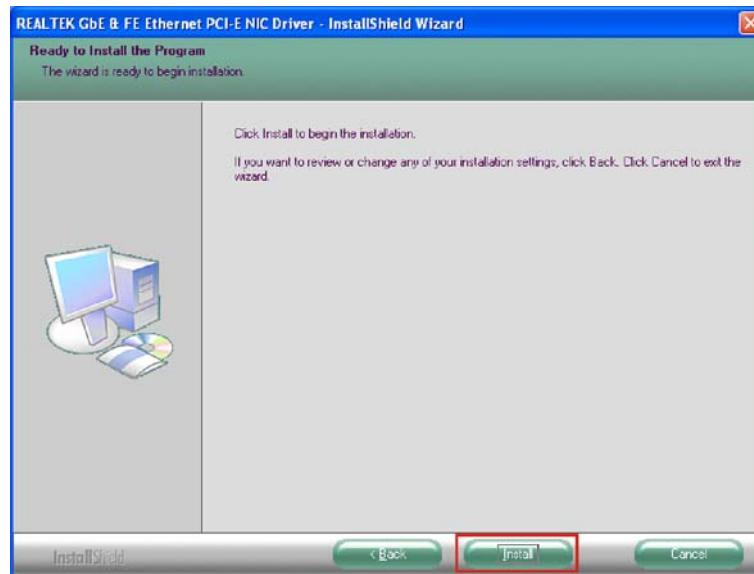

Figure 7-17: LAN Driver Welcome Screen
**Step 5:** The **Ready to Install** screen in **Figure 7-17** appears.